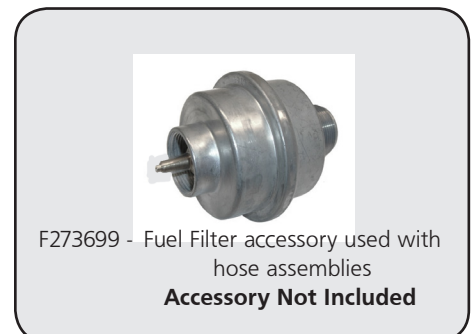

Figure 3
- **NOTE: THIS HEATER MAY BE OPERATED WITH (1) OR (2) DISPOSABLE 1 LB. PROPANE CYLINDERS OR WITH A REMOTE REFILLABLE CYLINDER(S) MAX. 20 LBS USING (1) OR (2) F273701, F273702 OR F272702 HOSE ASSEMBLIES WITH FUEL FILTERS (F273699) (Figure 3) ON EACH HOSE ASSEMBLY. HOSE NO. F273704 BUDDY SERIES HOSE, FUEL FILTER NOT REQUIRED. IT MAY ALSO BE OPERATED WITH (1) F271802 HOSE ASSEMBLY CONNECTED TO A REGULATED (11" W.C.) PROPANE SOURCE "FILTER NOT REQUIRED" OR (1) F271803 HOSE ASSEMBLY WITH 11" REGULATOR WITH ACME NUT "FILTER NOT REQUIRED".**